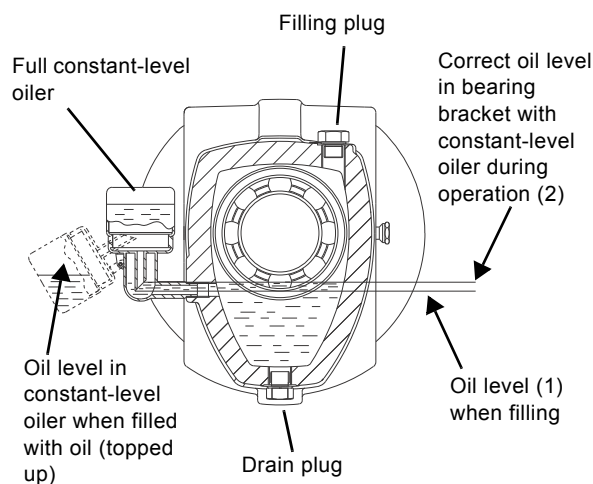

Fig. 5 Filling of oil
2. Wrap teflon tape around the thread of the constant-level oiler with teflon tape and screws the constant-level oiler into the tapped hole. It must be in vertical position. Lock the constant-level oiler into position by tightening counter nut (pos. 1g).
4. Hinge down the constant-level oiler and pour the oil supplied through the filling hole using a funnel (pos. P) until the oil reaches level (1) in the connection elbow. See fig. 5.
5. Fill the reservoir of the constant-level oiler with oil and snap it back into operating position. Now oil will be filled into the bearing bracket. Air bubbles can be seen in the reservoir during this process. Continue until the correct oil level is reached (2). See fig. 5.